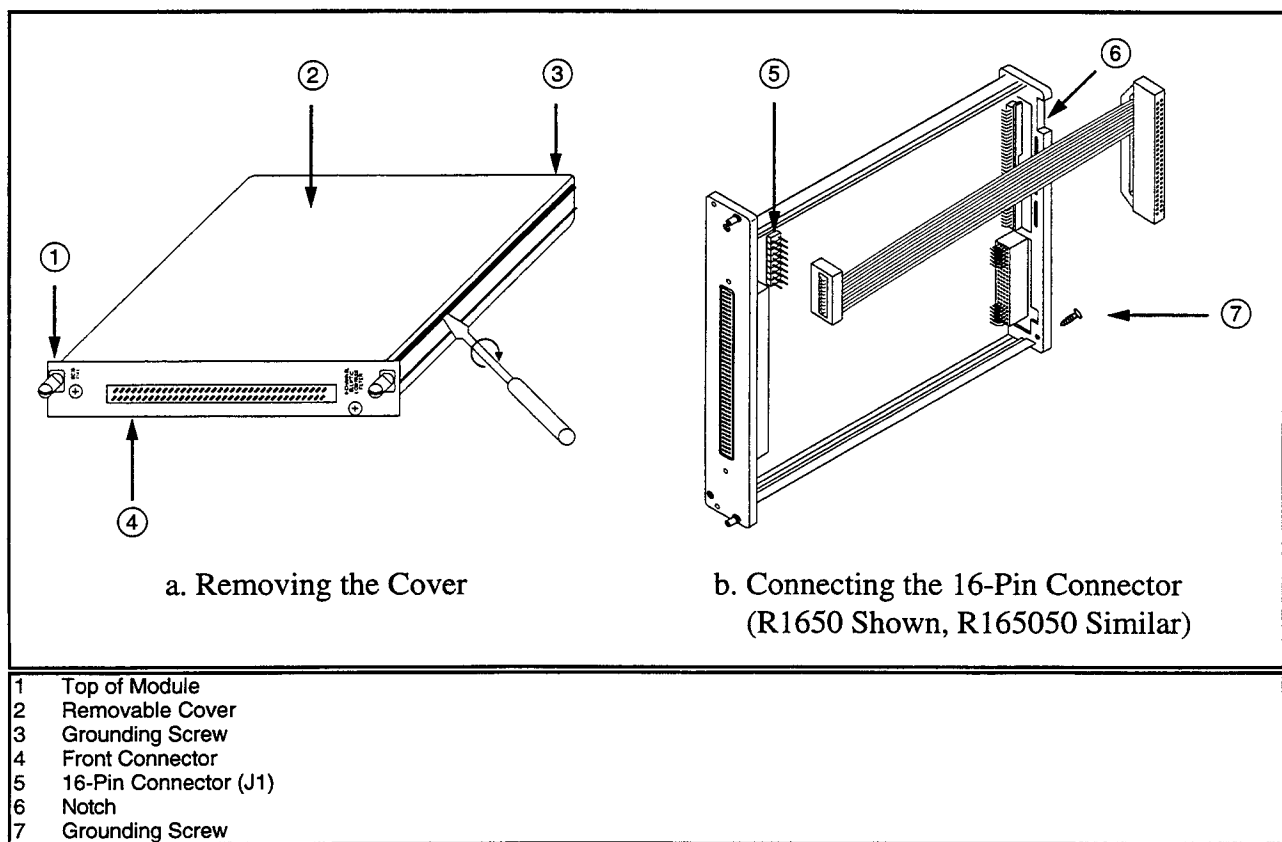

Figure 2. Installing a Cable into the SCXI-1141
- a. Unscrew the top cover's grounding screw (item 3 in Figure 2) from the rear panel of the SCXI-1141 module.